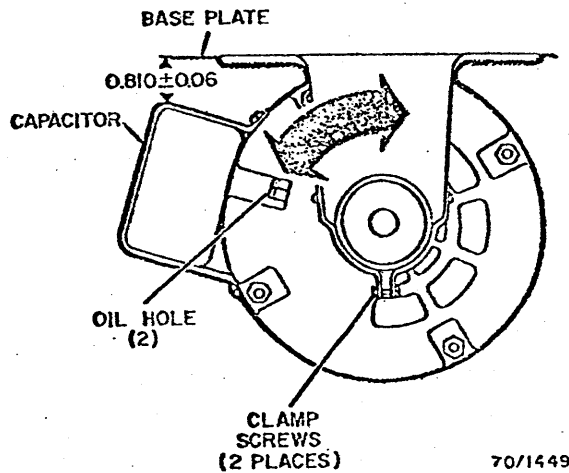

Fig. 3-92. Motor Oil Holes Alignment
2. Rotate the motor to obtain 0.810 ± 0.060 between the capacitor clamp and base plate as shown in Fig. 3-92.
3. Replace the coupling and the motor and adjust both components (Fig. 3-92 and Fig. 3-93). Connect the air pump hoses.